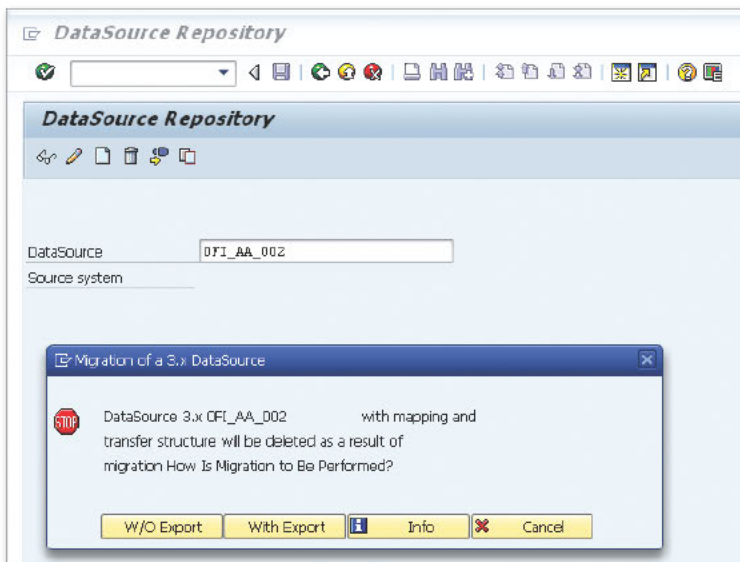

Figure 2 Message to Confirm Recovery of the DataSource
2. Specify the DataSource and source system, and then press . The screen shown in Figure 2 appears.